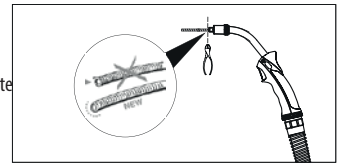

Figure 10: Cutting off the Liner Stick Out and Reassembling the Torch
- Reassemble the adaptor, the contact tip and the nozzle respectively with help of an appropriate hand tool (Figure 10).